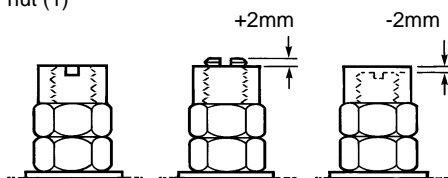

Fig. 5
Using a 16mm A/F spanner hold the adjustment nut (1) and slacken the lock nut (2). Now using a screw-driver in the slot provided to prevent the rod turning, the adjustment nut (1) and lock nut (2) may be repositioned up to a maximum of $\pm 2\text{mm}$ as shown on Fig. 5.